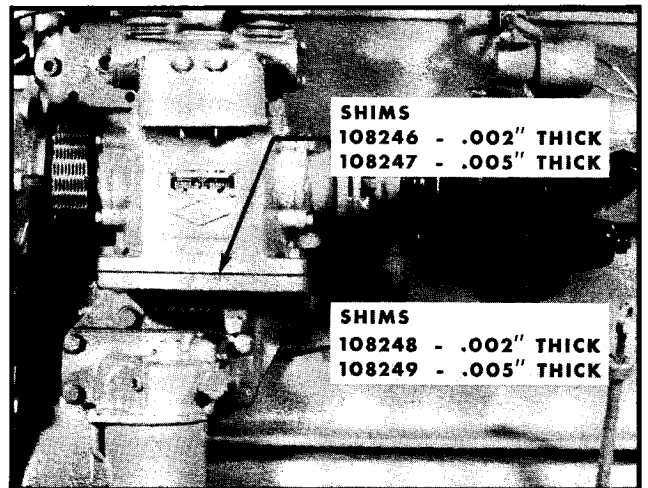

Fig. 12-77. Shim at points indicated
7. If couplings are out of alignment, readings will vary; remove old gaskets and add or remove shims at points shown. Fig. 12-77.